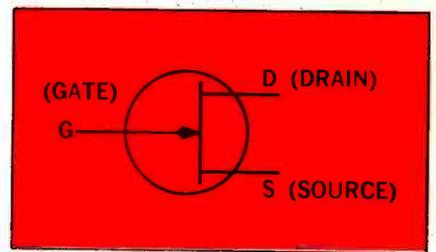

Fig. 1 — Schematic symbol for an N - channel JFET.
Fig. 1 is the schematic symbol for a junction field-effect transistor (JFET). Notice that the input is a junction called the *gate*. The output is called the *drain*, and the common terminal is called the *source*. These correspond to the base, collector, and emitter, respectively, of a bipolar transistor, but with one major difference: The input junction of a JFET is always *reverse biased*, while the input junction of a bipolar device is *forward biased*.
Just as bipolar transistors are made with NPN and PNP materials, FETs come in two types: *N Channel*, and *P Channel*. The FETs in Figs. 1 and 2 are N Channel, as indicated by the arrow pointing *inward*. P Channel devices have the arrow pointing *outward*. The type of channel material determines the polarities of voltage which should be applied to the terminals.
ures. Pressure peaks occur when the heart is in contraction, thereby forcing blood into the main arteries. This period of heart contraction is called *systole*. Pressure will fall to a minimum, but not all the way to zero, when the heart relaxes (*diastole*), allowing the lower heart chambers to refill with blood. The maximum and minimum pressures created over this cycle are the source of the two numbers quoted whenever somebody takes your blood pressure (BP). Fig. 1 shows a pressure-vs.-time graph for blood pressure of 120/80.